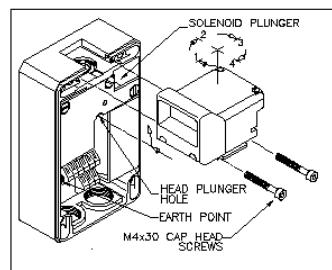

Fig 1: Rotating the Head
3. Remove the Tongue assembly from the unit by depressing the Solenoid Plunger (see fig 1) and pulling the tongue out of the head.
5. The Locking Head may be rotated in increments of 90° to suit the installation. If the head is to be repositioned, refer to fig 1 and continue.
- ii. Depress the solenoid plunger and hold against the spring pressure. Insert the electrical screwdriver in the Head Plunger Hole and hold the head plunger against spring pressure (See arrows on fig 1).